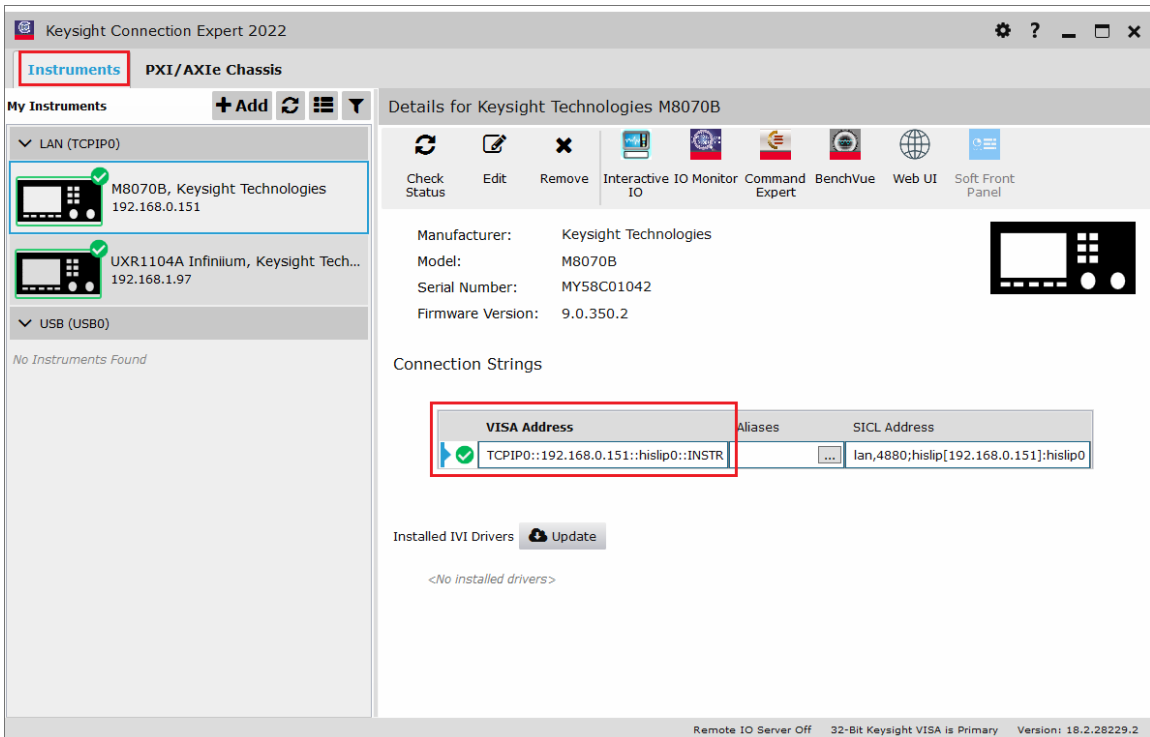

Figure 5-4 Keysight Connection Expert
- 2 A window similar to that shown in Figure 5-4 is displayed. If you are not familiar with the Connection Expert, click the question mark (top right) for help or to watch a short introductory video.
- 4 Select one of the instruments you want to connect and verify that its **VISA Address** appears as shown (larger red frame in Figure 5-4) with a tick beside it.